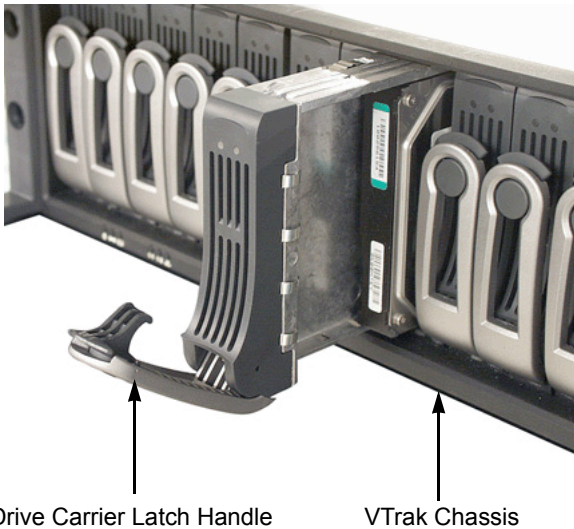

Figure 3. VTrak 15100 Disk Drive access
2. Carefully lay the converter into the drive carrier, with the SATA connection facing forward (see Figure 5), so that the screw holes on the bottom line up (see Figure 3).